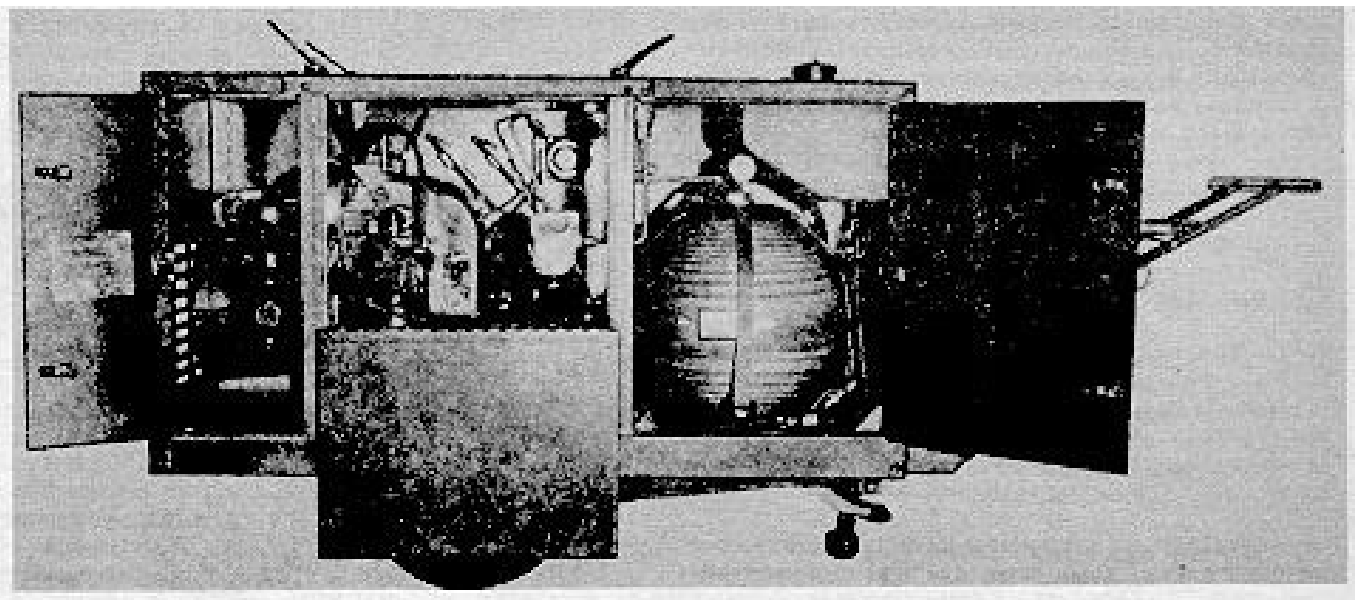

Figure 1-4. Right Side View with Access Doors Open
3. Open receiver shutoff valve and line filter valve (see Figure 1-4).
4. Open fuel line shutoff valve (see Figure 1-4). Set engine choke lever as required. Set engine throttle at approximate midpoint.